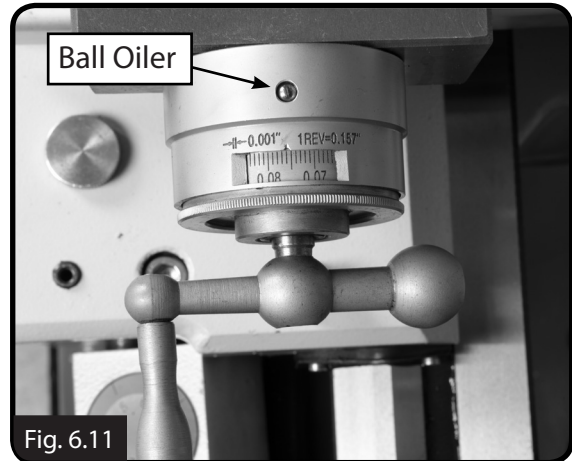

Fig. 6.11
- ☐ Compound-rest leadscrew & slides (Fig 6.11)